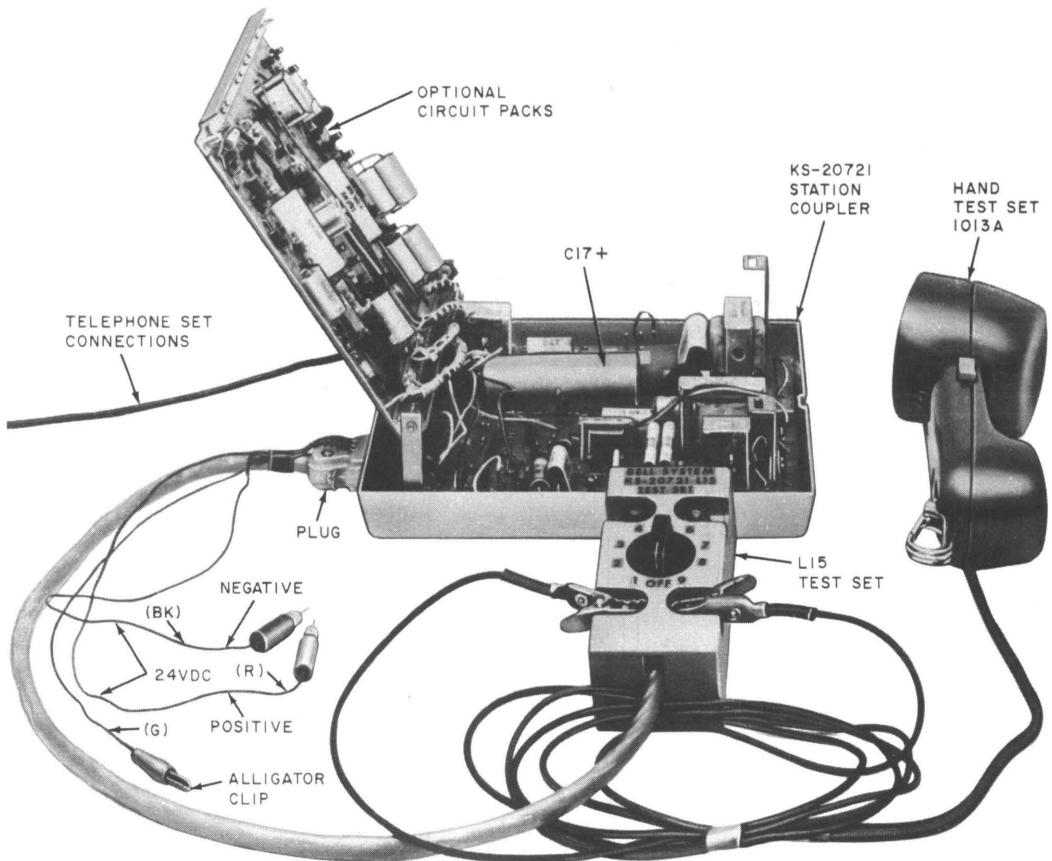

Fig. 6—KS-20721 Station Coupler with KS-20721, List 15 Test Set and 1013A Hand Test Set
**4.06** The List 15 test set (Fig. 6 and 8) used with the 1013A hand test set (or equivalent) and a connecting cable terminated in a plug for connection to the station coupler permits checkout of the coupler independent of the CPE.
3	Connect a 1013A (or equivalent) hand test set to terminals provided on test set (Fig. 6).